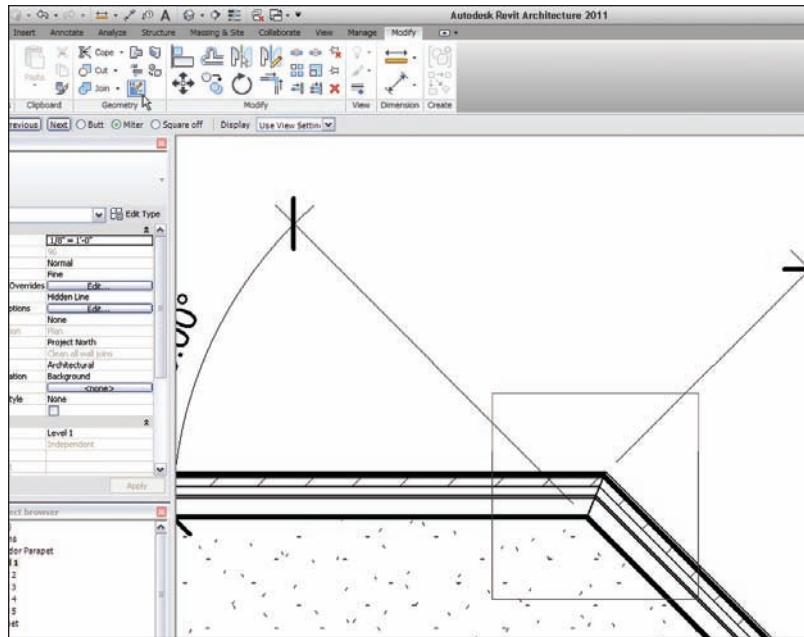

FIGURE 7.31 Modifying the wall's corners
2. Zoom into the wall intersection, as shown in Figure 7.31.
3. On the Modify tab, click the Wall Joins button, as shown in Figure 7.31.
5. On the Options bar, click the Miter radio button, as shown near the top left in Figure 7.31. Notice the walls are now joined at a miter.